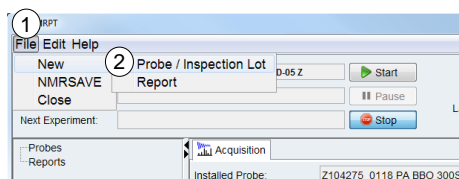

Figure 3-4: Create new Inspection Lot for probe
- On the **File** menu shown in Figure 3-4 (1), point to **New**, and then click **Probe / Inspection Lot** (2). The New Probe / Inspection Lot dialog opens up.